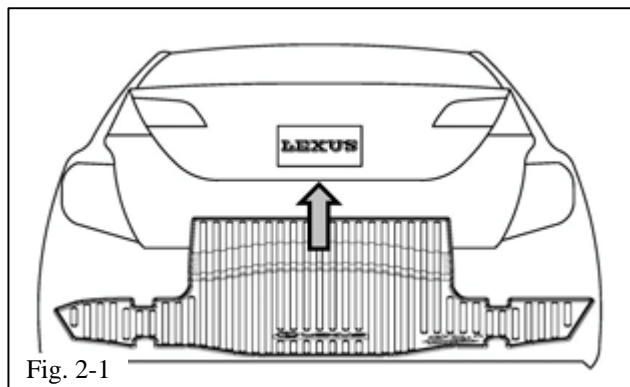

Fig. 2-1
- (a) Place the Cargo Tray in the trunk area with the logo towards the rear of the vehicle and facing up (Fig. 2-1).